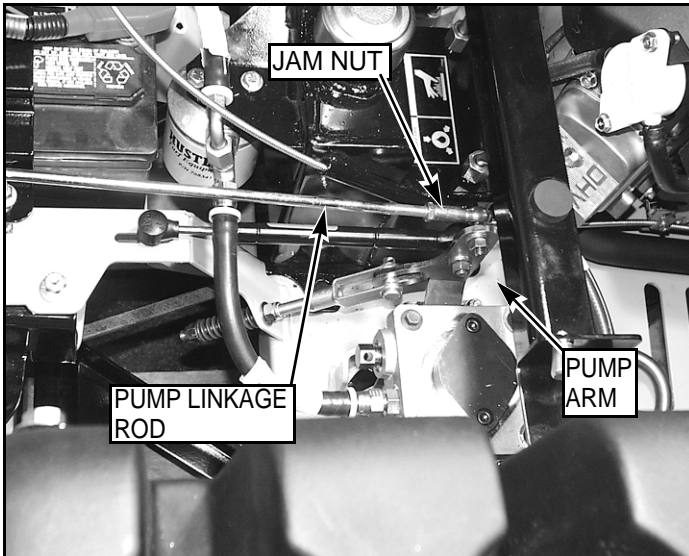

FIG. 79
Fine adjustment to the unit's steering is made with the adjustable pump linkage rods located between the control lever and pump arms "FIG. 79".
4. If wheel(s) are rotating forward, loosen the jam nuts on the pump linkage rods and rotate the rod to lengthen the steering control linkage until the wheel(s) come to a stop "FIG. 79". Repeat for the opposite side if necessary.
5. If wheel(s) are rotating in reverse then loosen the jam nuts on the pump linkage rods and rotate the rod to shorten the steering control linkage until the wheel(s) come to a stop "FIG. 79". Repeat for the opposite side if necessary.